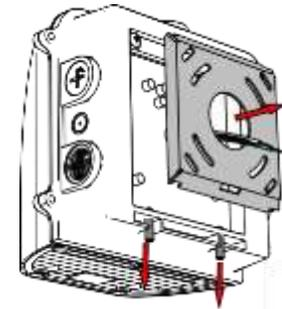

Figure 1
1. Loosen the Set Screws and remove the Quick Mount Bracket [Figure 1].